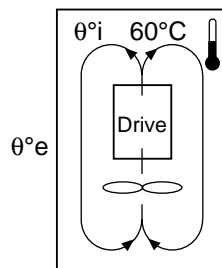

Figure 2-14 Ventilation for Dust and Damp Proof Enclosure
- Air flow inside enclosure = 200 CFM (100 dm³/s), fan mounted beneath the controller at a maximum distance of 2 in (50 mm); see Figure 2-14.